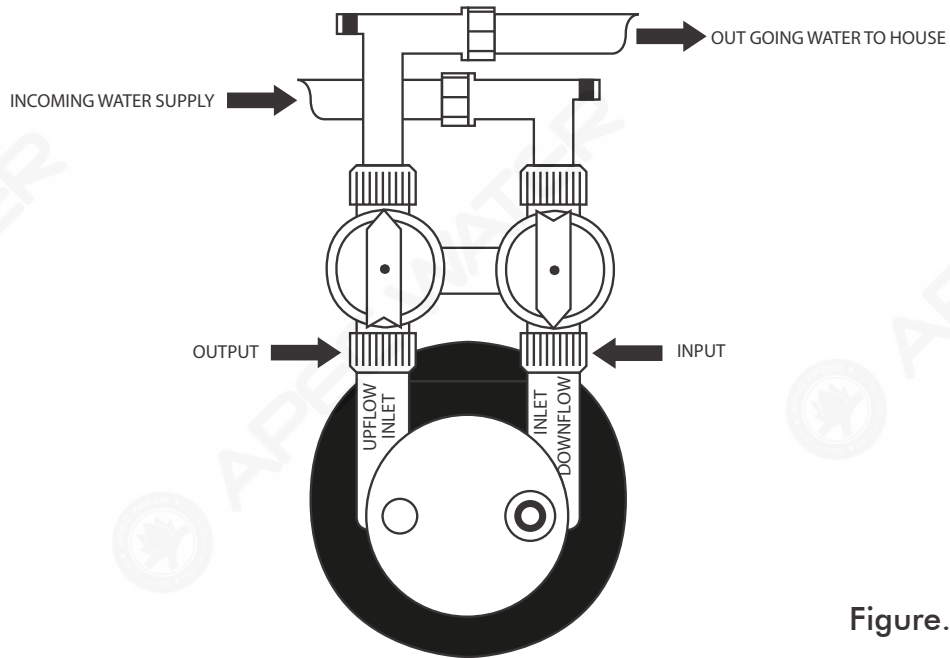

Figure. 5
**Normal Operation Mode:** Water flows through the Bypass Valve and into the Green Carbon Conditioner supplying treated water into the house. (See Figure 5)